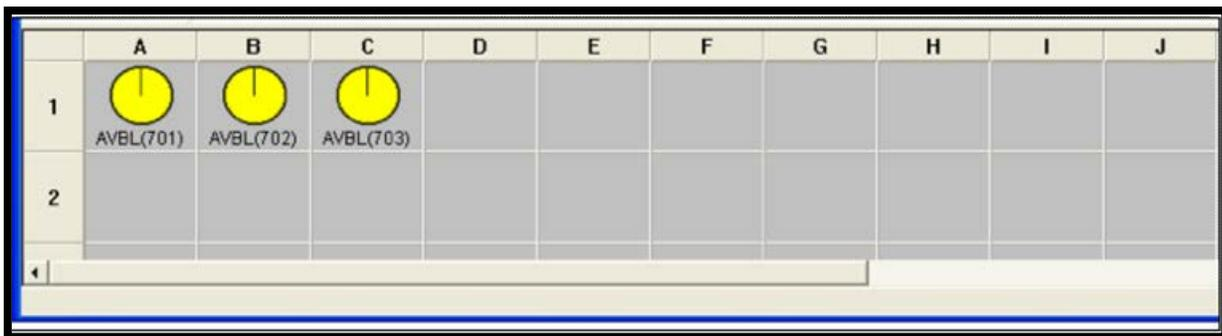

Figure 151. Detector Grid
- 4) Figure 151 shows the Detector Grid after the detector has been added. Detector icons can be positioned anywhere on the grid (when they are not acquiring) by clicking and dragging them - for example, if there are three Ensembles it may be desired to cluster the icons for each instrument in different sectors of the grid. To simplify sample